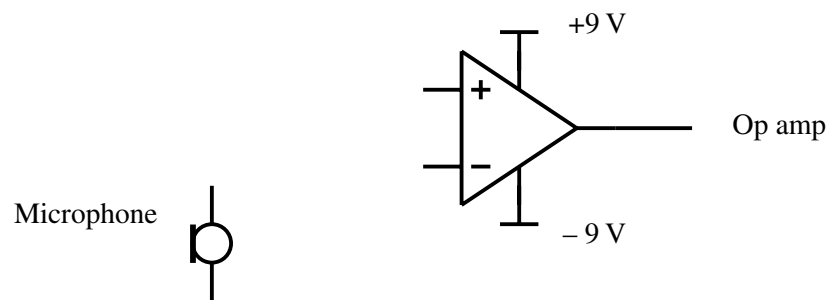

Fig. 3(c)
- (ii) A non-inverting amplifier is required to amplify the microphone voltage. Draw a suitable amplifier circuit based on the op amp shown in **Fig. 3(c)** and suggest suitable values for resistors R_1 and R_f to achieve a gain of 100 given that $\text{gain} = 1 + \frac{R_f}{R_1}$. (R_1 and R_f are used to provide feedback.) [4]